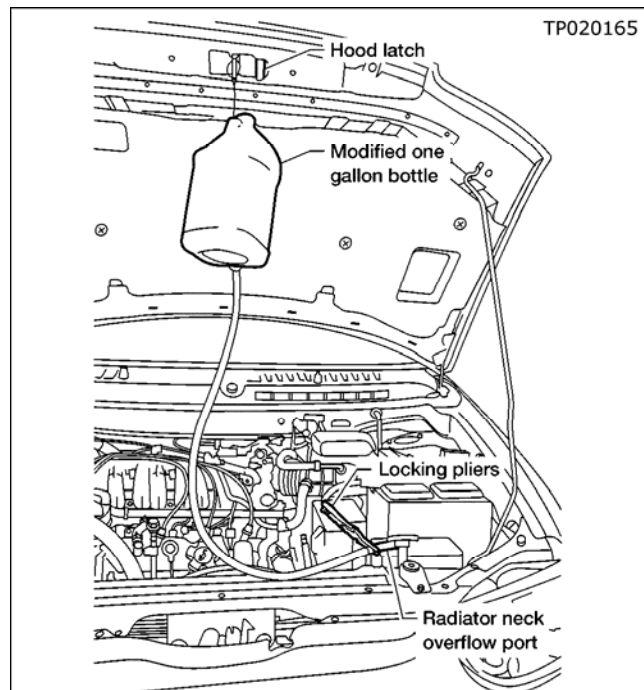

Figure 6
8. Hang the bottle from the hood latch (see Figure 6).